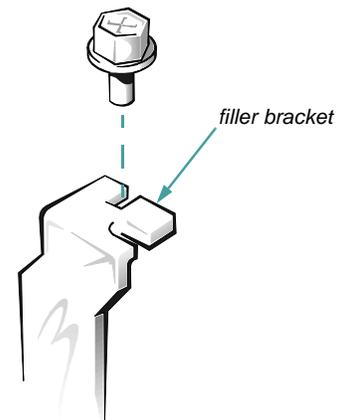

Figure 7-3. Removing the Filler Bracket
4. **Remove the metal filler bracket that covers the card-slot opening for the expansion slot you intend to use (see Figure 7-3).**
5. Unscrew the card-mounting bracket (Figure 7-3).